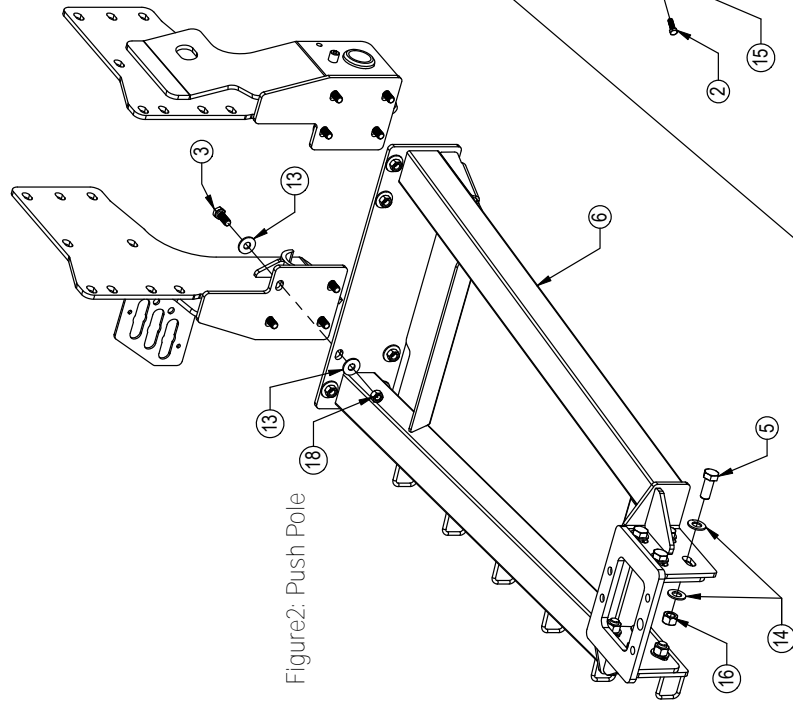

Figure 2: Push Pole
**Refer to Figure 2 on Page 5 for the mid bracket installation Steps #9-14.**
Refer to Figure 2 on Page 7 for the push pole installation Steps #7-14.